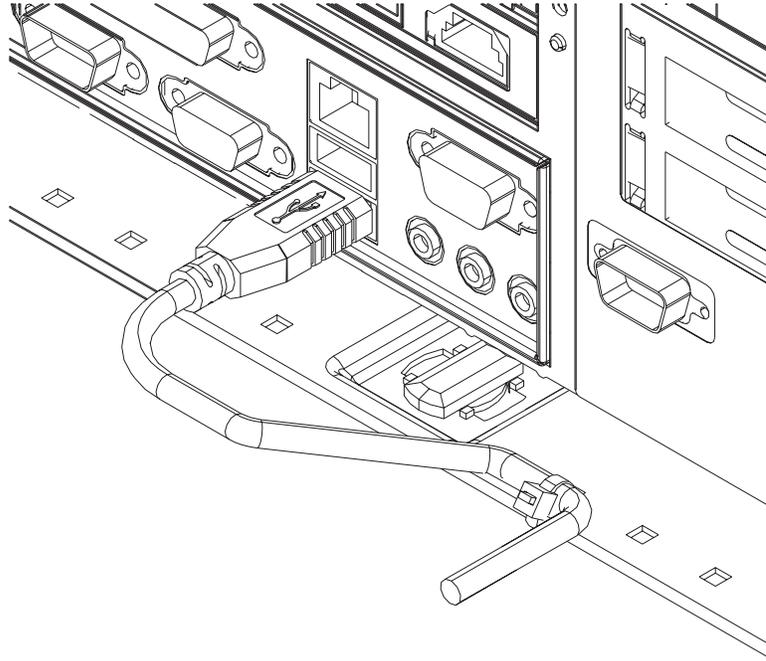

Figure 37. Securing the cable with cable ties
- As shown in Figure 37, wrap the cable tie around the cable cord and through the hole located in the base of the system unit. Tighten the cable tie to secure. Your connection should place no pressure on the cable connector, but instead secure the cable cord to the system unit.